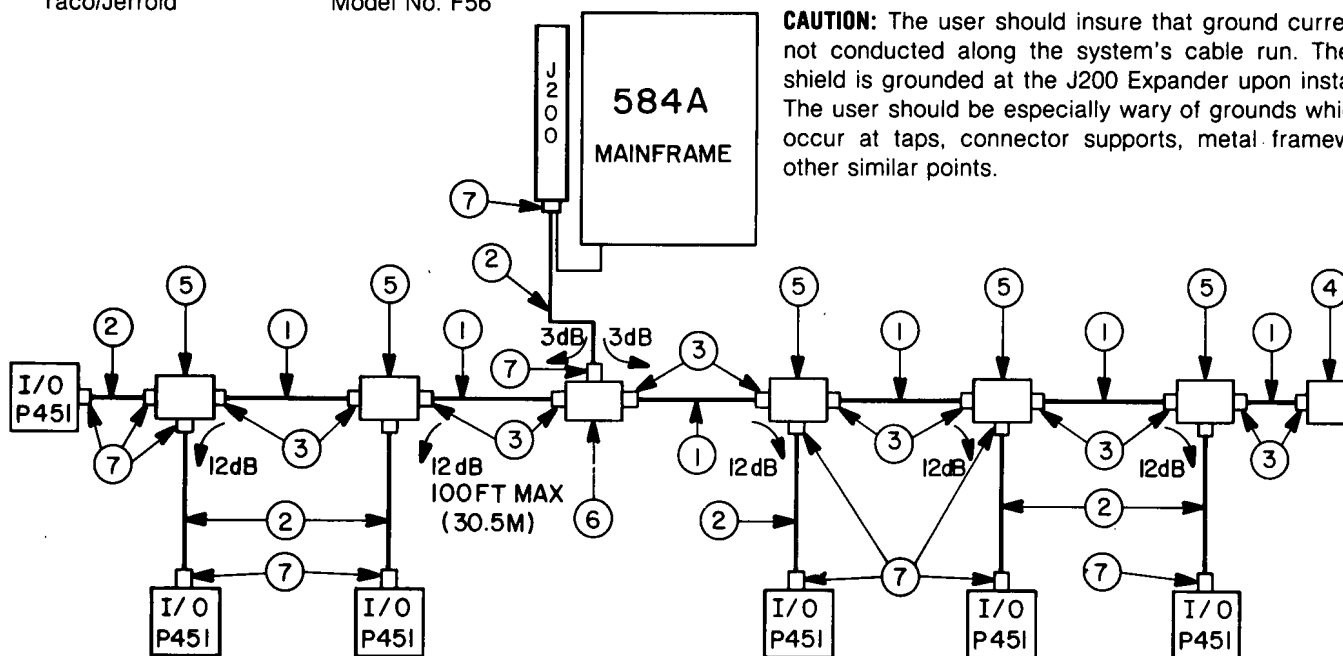

FIGURE 28 J200 REMOTE I/O CONFIGURATIONS
Figure 28 shows a typical interconnection diagram for a J200 installation. The figure includes all the cables, connectors and terminators that any installation in any configuration could implement. Table 8 lists recommended part numbers and suppliers for cables and connections used in Figure 28.
To aid the user in understanding the information provided in Figure 28 and Table 8, the following describes sample dB loss calculation for two drops.
**TAPS AND TERMINATORS FOR FIGURE 28**